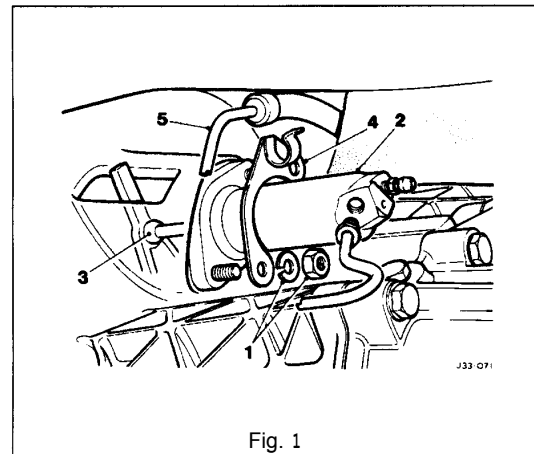

Fig. 1
- Remove the nuts (1 Fig. 1) and spring washers securing the slave cylinder to the transmission.
- Remove the hose clip bracket (4 Fig. 1) complete with the hydraulic hose/ pipe (5 Fig. 1), and slide the slave cylinder (2 Fig. 1) off the mounting studs.
- Slide the rubber boot along the push rod (3 Fig. 1) and withdraw the push rod from the cylinder.